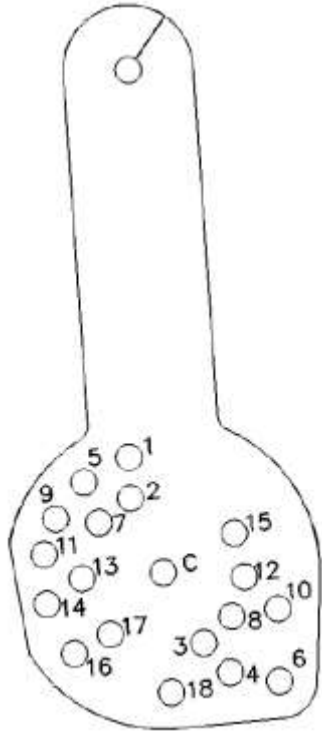
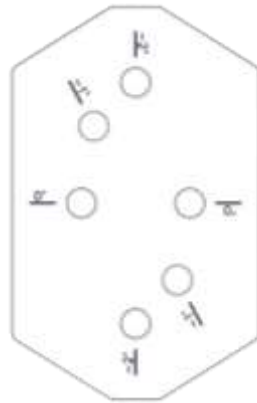

Figure 5: Tilt select arm
Figure 6: Bottom bracket
- If a tilt other than 0 degrees is desired, reposition the antenna according to the hole numbering on tilt select arm 10, *Figure 5*, and downtilt *Table 2*. For bottom bracket 8, *Figure 6*, use 0 degrees for downtilt, and -1 or -2 degrees for uptilt. Then tighten all fasteners to 20 lb-ft.